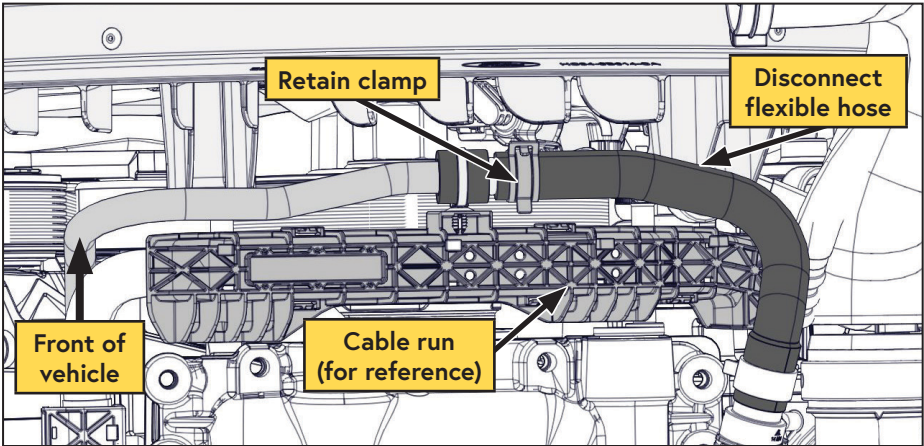

Figure 9 — Disconnect the heater return hose
- ☐ Disconnect the small flexible hose secured to the cable run tray on the front of the engine, above the steering linkage, from the metal coolant tube. Retain the OEM spring clamp (Figure 9).